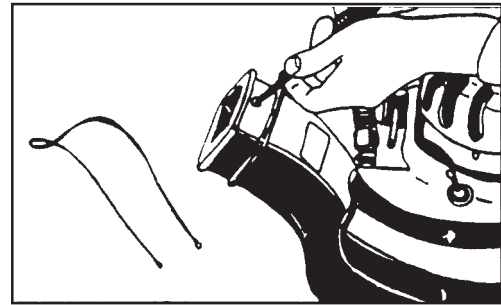

Figure 1
2. Using a Phillips screwdriver, remove the screw on top of the exhaust pipe opening. See Figure 1.